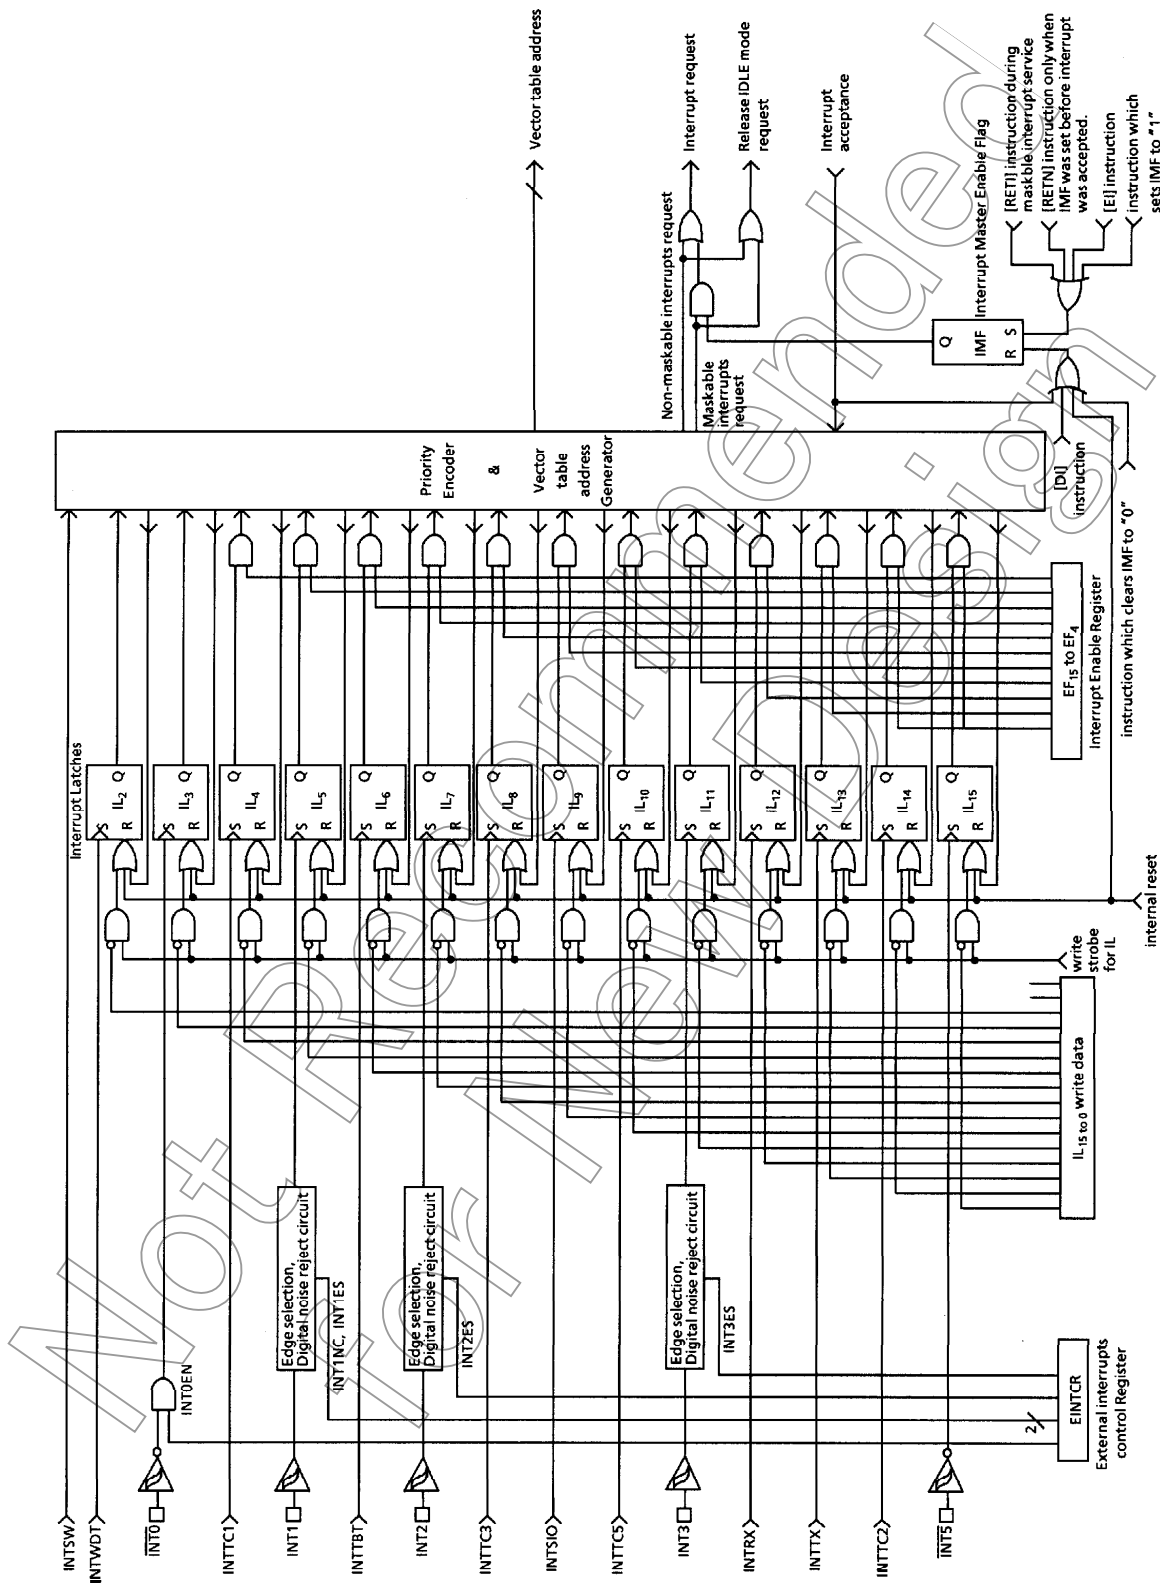

Figure 1-26. Interrupt Controller Block Diagram
The interrupt latch is set to "1" when an interrupt request is generated and requests the CPU to accept the interrupt. The acceptance of maskable interrupts can be selectively enabled and disabled by the program using the interrupt master enable flag (IMF) and the individual interrupt enable flags (EF). When two or more interrupts are generated simultaneously, the interrupt is accepted in the highest priority order as determined by the hardware. Figure 1-26 shows the interrupt controller.